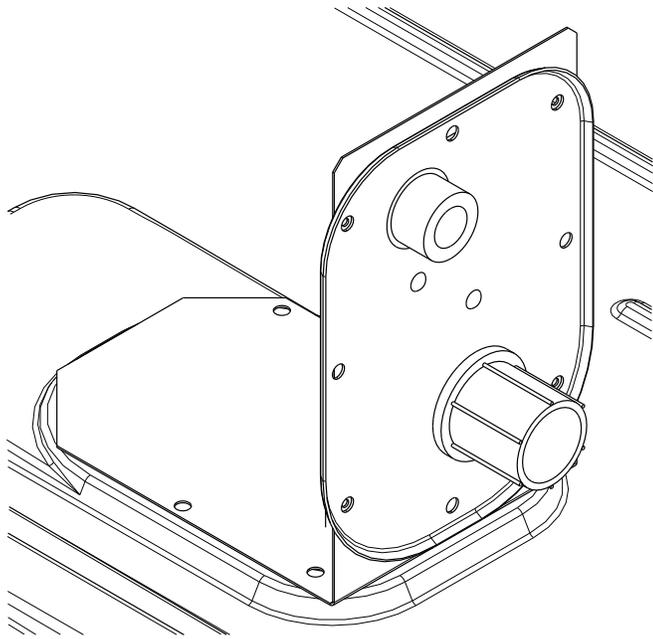

Fig. 28 — Thru-the-Base Fitting Assembly (Shown in Shipping Position)
This service connection kit consists of a 1/2-in. electrical bulkhead connector and a 3/4-in. electrical bulkhead connector, connected to an “L” bracket covering the embossed (raised) section of the unit basepan in the condenser section (see Fig. 28 for shipping position). The 3/4-in. bulkhead connector enables the low-voltage control wires to pass through the basepan. The 1/2-in. bulkhead
3. Place the gasket over the embossed area in the basepan, aligning the holes in the gasket to the holes in the basepan. See Fig. 28.